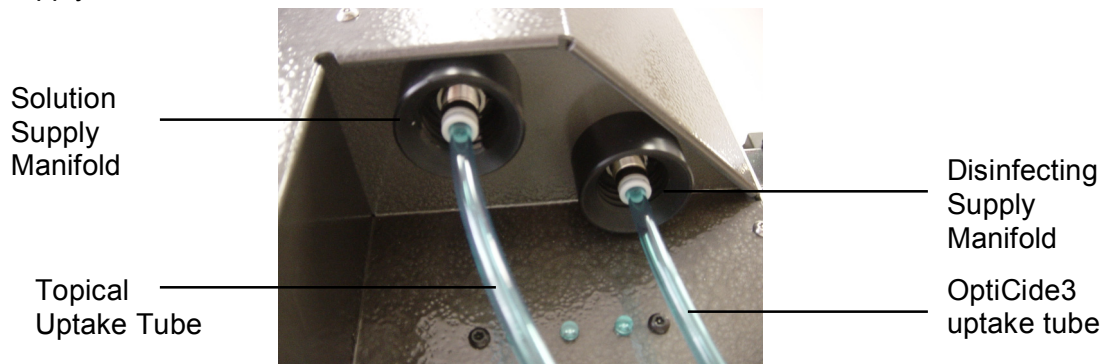

Figure 10: Supply and Waste Manifolds
4. Reassemble the handpiece and reattach it to the front of the unit (see Figures 10, 11 and 12).